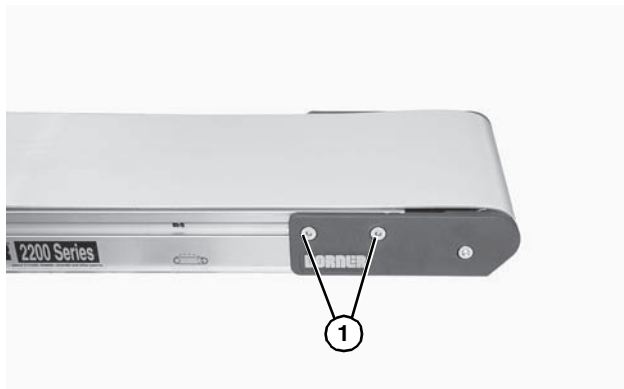

Figure 30
1. On one side of the conveyor, loosen two (2) head plate fastening screws (**Figure 30, item 1**) and remove them.